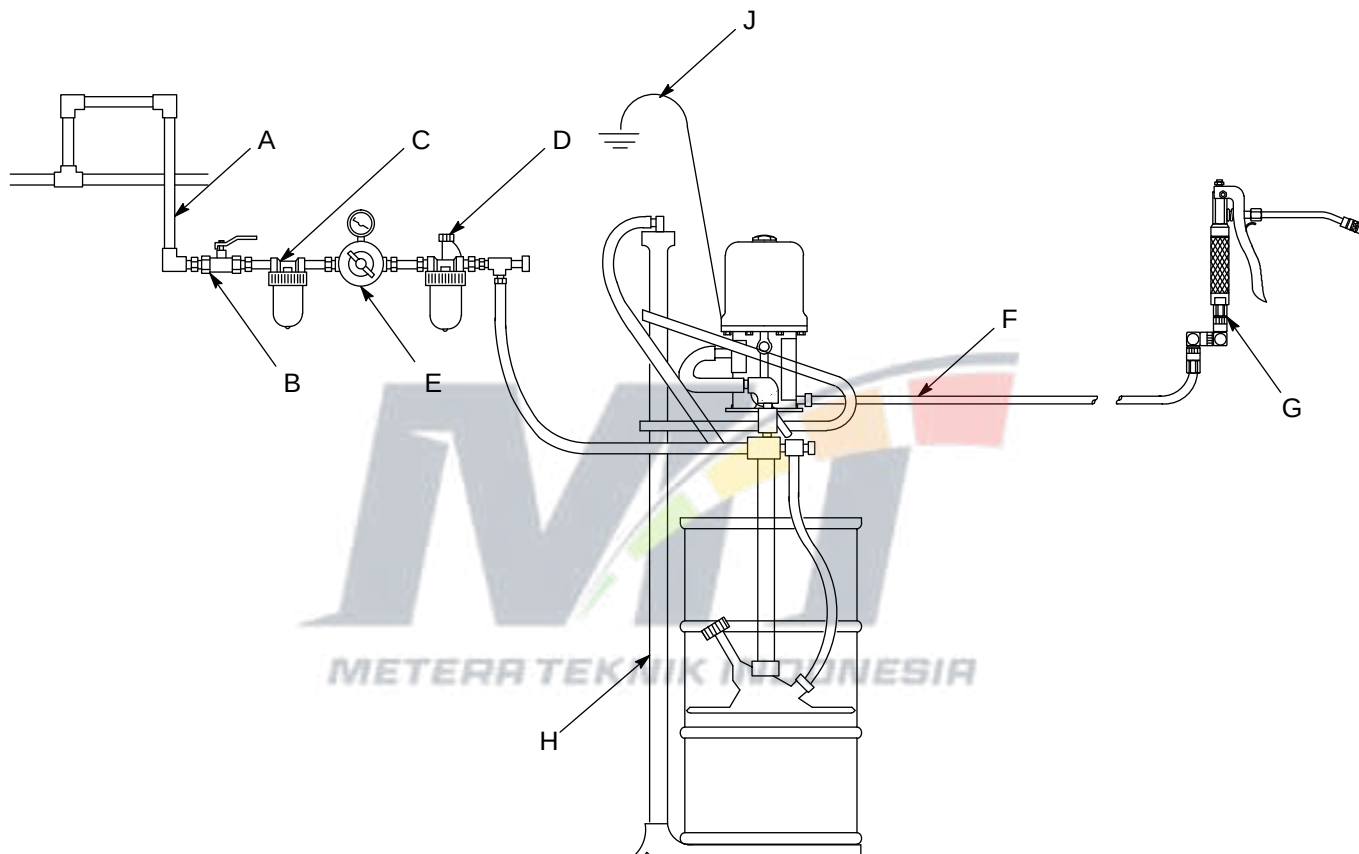

FIG. 2: Typical Installation
Install the airline accessories in the approximate order shown in FIG. 2. Install a bleed-type master air valve (B) within easy reach of the pump, upstream from the air regulator. Install an air filter (C) to remove harmful dirt and moisture from the compressed air supply. For automatic air motor lubrication, install an air line oiler (D) close to the pump air inlet. Install an air regulator (E) to control pump speed.
Use the air regulator (E) to control the pump speed and fluid pressure. See FIG. 2. Always use the lowest pressure necessary to obtain the desired results.